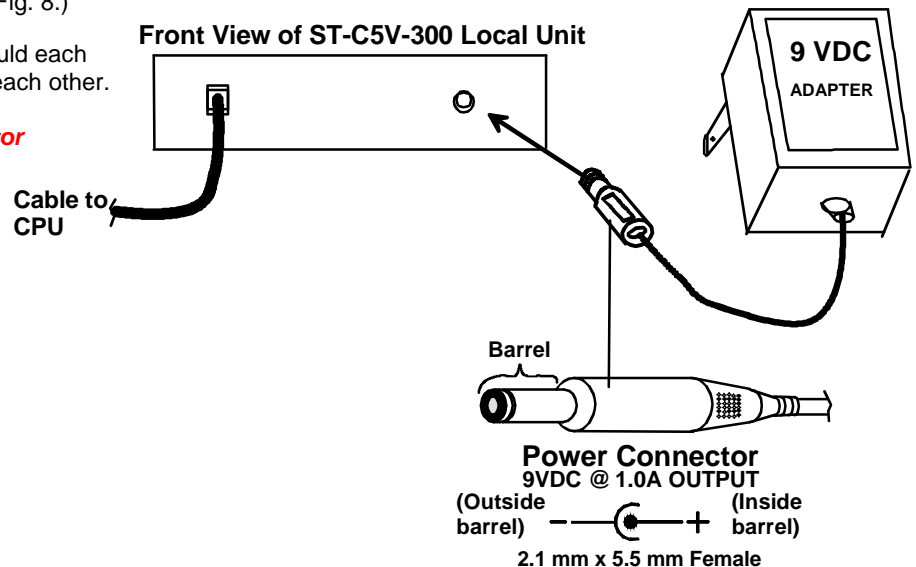

Figure 8- Connect the AC adapter to the Local Unit
2. Connect the AC adapter power connector to the 9VDC ports on the Local Unit. Plug the AC adapter into a power outlet. The green LED on the RJ45 connector of both the Remote and Local Units should illuminate, indicating that a proper power connection has been made to them. (See Fig. 8.)